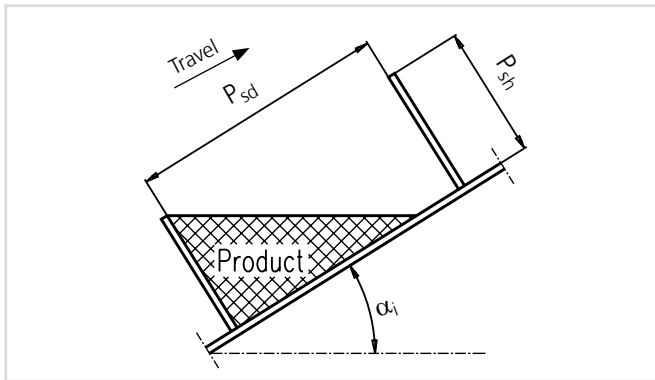

Figure 5-5
1. The distance between the product supports will allow the product to lie as shown on figure 5-5.
If $\text{InvTAN} \left(\frac{P_{sh}}{P_{sd}} \right) \leq \alpha_i$ - you have situation 1 on figure 5-5